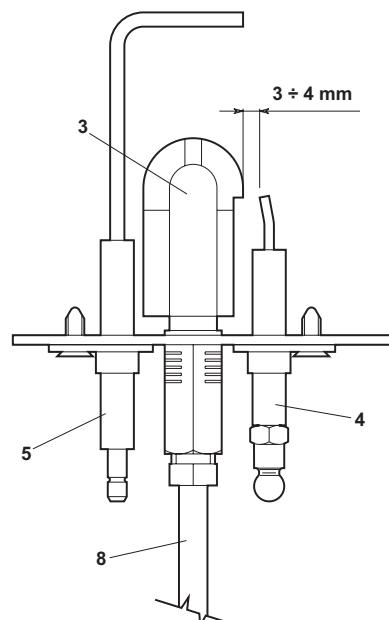

Fig. 10
- The electrodes must be free of scale and properly positioned (see fig. 10).
Check that the electrodes are correctly positioned and free of any deposits (see fig. 10).